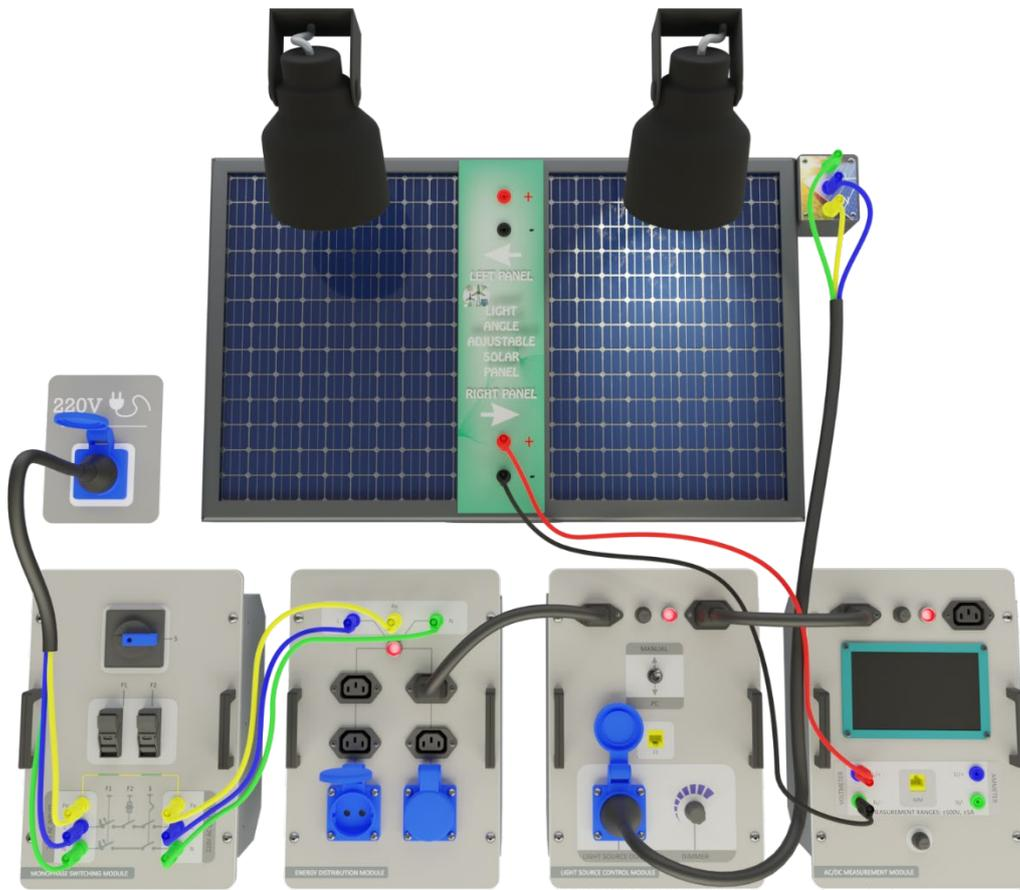

Figure-37. Installation Image of Examination of the No-Load Output Voltage Due to the Season Change of the Photovoltaic Panel
1. Set up the connection as specified in Figure-37. Ensure a constant level of light in the laboratory by creating an average scenario. Any alterations to the positions of the lamps or curtains will have an impact on the experimental outcomes.